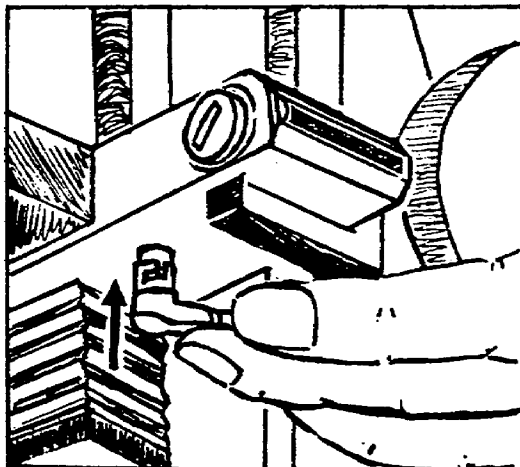

Figure 1-24. Attaching Sync Cord.
b. Carefully place the cord connection onto the camera connection, making sure that the tabs are aligned and placed all the way in the cord receptacle (fig 1-24).